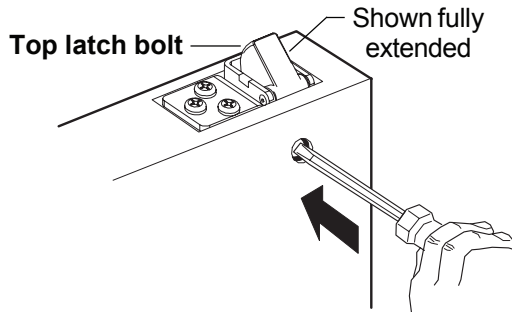

Figure 1
1. Open door and release top latch bolt as shown (Figure 1).
5. Rotate top adjusting screw clockwise until top latch bolt is fully extended (Figure 1).
1. Remove mortise cylinder cam and reinstall in reverse (Figure 1).